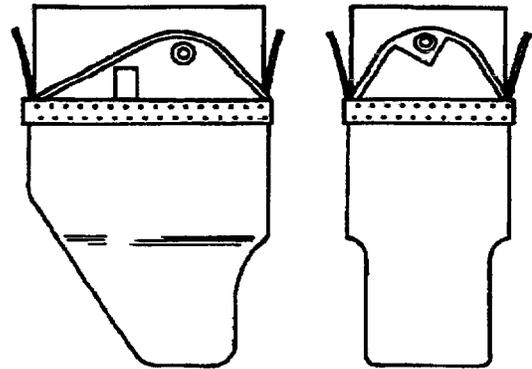

Figure 5. Replacement of Drogue Sleeve Assembly
b. Install new drogue sleeve. Ensure that sleeve assembly is installed correctly. Install screws and nuts securing sleeve to drogue container (Figure 5).